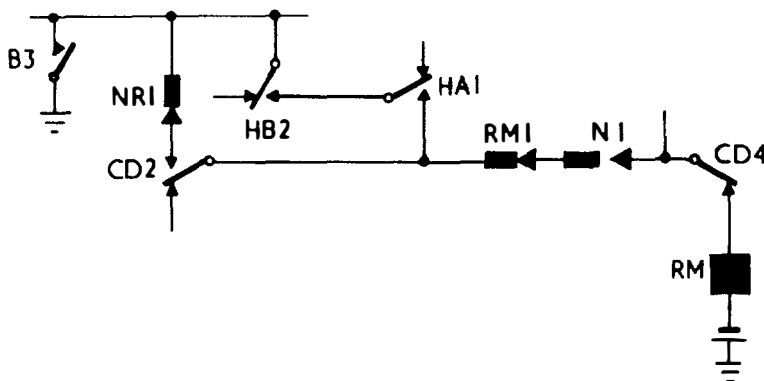

FIG. 5. AUTOMATIC CUT-IN.
**3.7 AUTOMATIC CUT-IN.** At the end of the vertical pulse train, relay CD releases slowly and at CD4 operates the rotary magnet from earth at B3 via operated HB and HA contacts and the rotary interrupter springs (Fig. 5). The rotary magnet steps the wipers to the first contact of the dialled level.